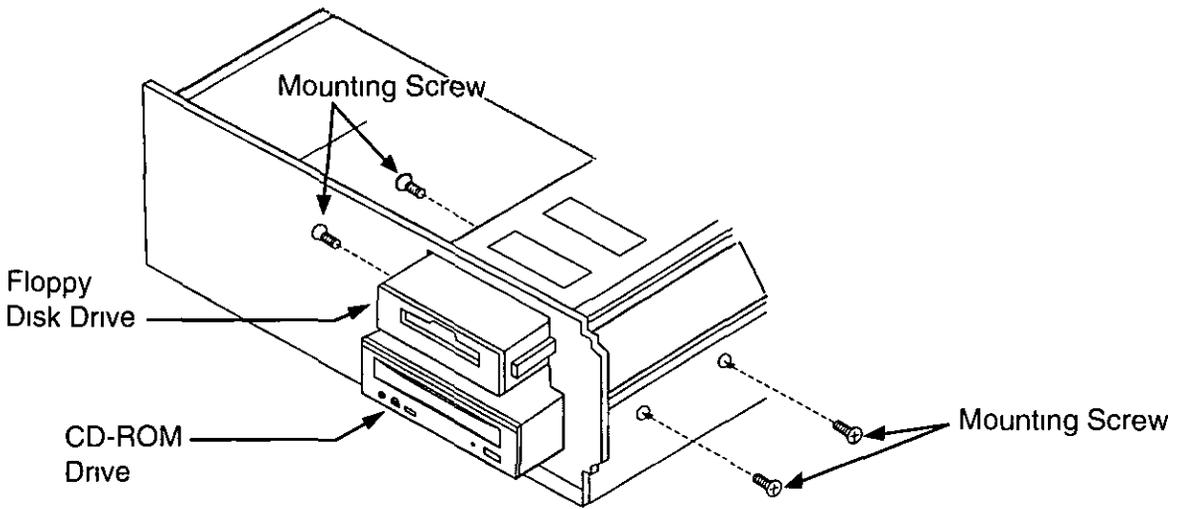

Figure 2
- c** Look above your vacant disk drive bay. If it is occupied by a floppy disk drive, slide this floppy disk drive forward a couple of inches. Do not disconnect its cables. This will allow for a easier CD-ROM drive installation (Figure 2)